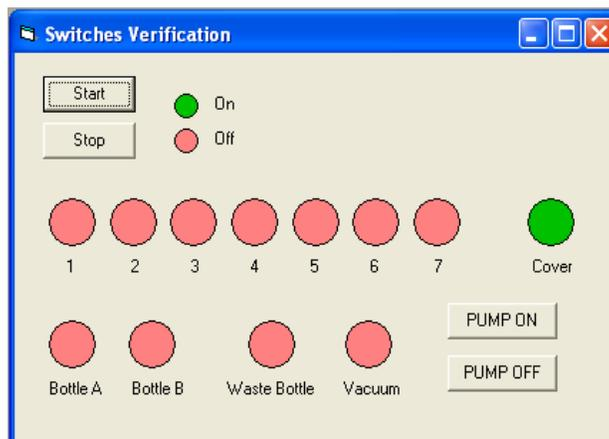

Figure 5-67: Cover Off - Switches Verification
3. Open the Main Cover. The *Cover* button should turn green (Figure 5-67).